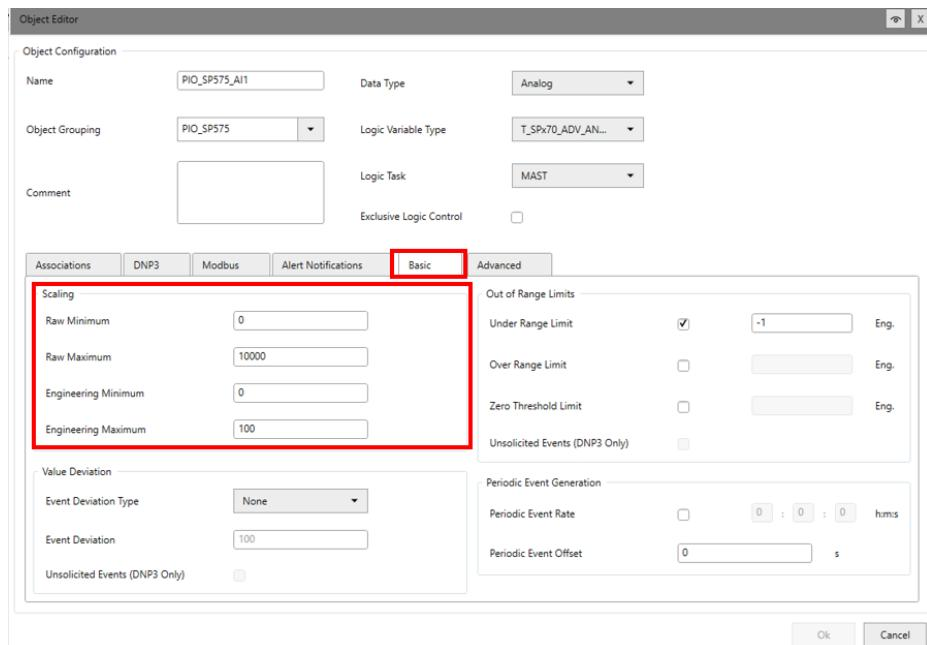

Figure 4. Object Editor Window to set Input and Output parameters.
To set parameters for an Analog Input (AI) or an Analog Output (AO) you need to open its **Object Editor** window ‘Configuration – SPx70 Controller’>Configuration>Physical I/O>Local>Channel Configuration, double click object name or ‘Configuration – SPx70 Controller’>Objects>Object Configuration, double click on object name. Once **Object Editor** window is open (Figure 4) there will be options under *logic variable type*: T_SPx70_INT (integer), T_SPx70_DINT (double integer), T_SPx70_UINT (unsigned integer), T_SPx70_REAL and ADV_ANALOG. The default is T_SPx70_DINT, however it is recommended to use ADV_ANALOG. One advantage of this variable type is having access to more object variables with different logic types. An example is activating the *Alert Notifications* where you can enable four low limits (L1, L2, L3 and L4) and four high limits (H1, H2, H3 and H4), which the state variable for each is a BOOLEAN. Wherever a limit has been reached the state of this limit will be TRUE, otherwise it will be FALSE. Therefore, an AI state variable can be used in a logic structure along with a DI, like an AND gate. Remember the limit values depend on *Engineering Minimum* and *Engineering Maximum* defined under the tab *Basic* in **Object Editor**.